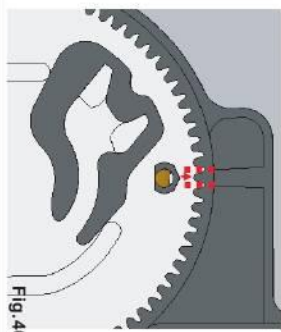

Fig.46
- ◆ The peak of the mark on the Day driving wheel should be set and aligned within the marked area on the Calendar plate as indicated in Fig.46